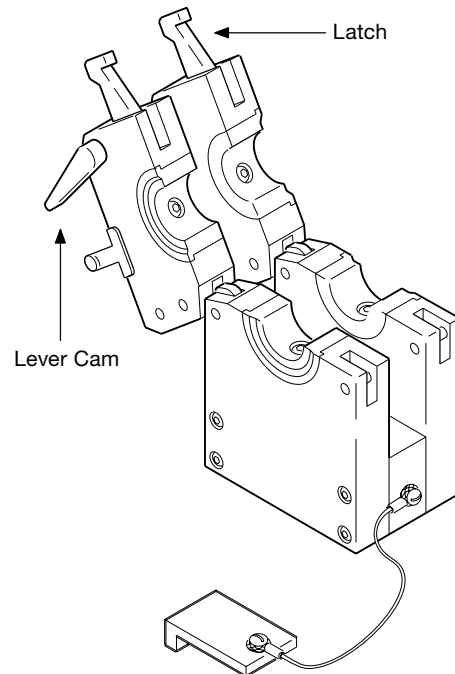

Figure 24 Lever Cam and Latch
6. Check the lever cam and latch for smooth operation. See Figure 24.